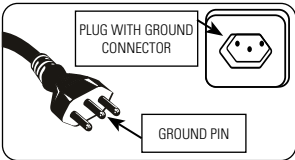
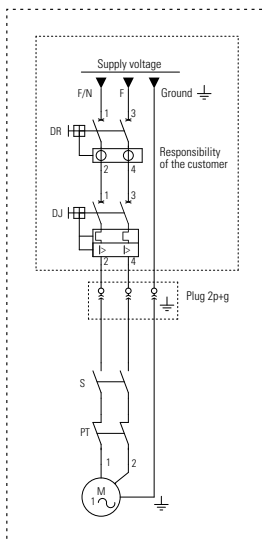

FIGURE 8.1 - PLUG AND POWER
FIGURE 8.2- SINGLE-PHASE ELECTRICAL CONNECTION SCHEME (MOTOR WITH THERMAL PROTECTION)
- Consult a specialized technician to evaluate the general conditions of the electrical network and select the proper electrical devices for supply, connection (Figure 8.1) and protection.
- The electrical wires must be dimensioned according to the motor power, electrical network voltage and distance from the energy source (orientations in Table 8.1) to the motor, connected to the voltage (V), as indicated on the tag on the electric motor or power cord.
- For safety and warranty of the electric motor, the orientation on Figure 8.2 must be followed. The non-compliance might cause the motor to burn out and warranty loss.
- For motor protection, the orientations of Figure 8.2 must be followed.
Legend (Figure 8.2)